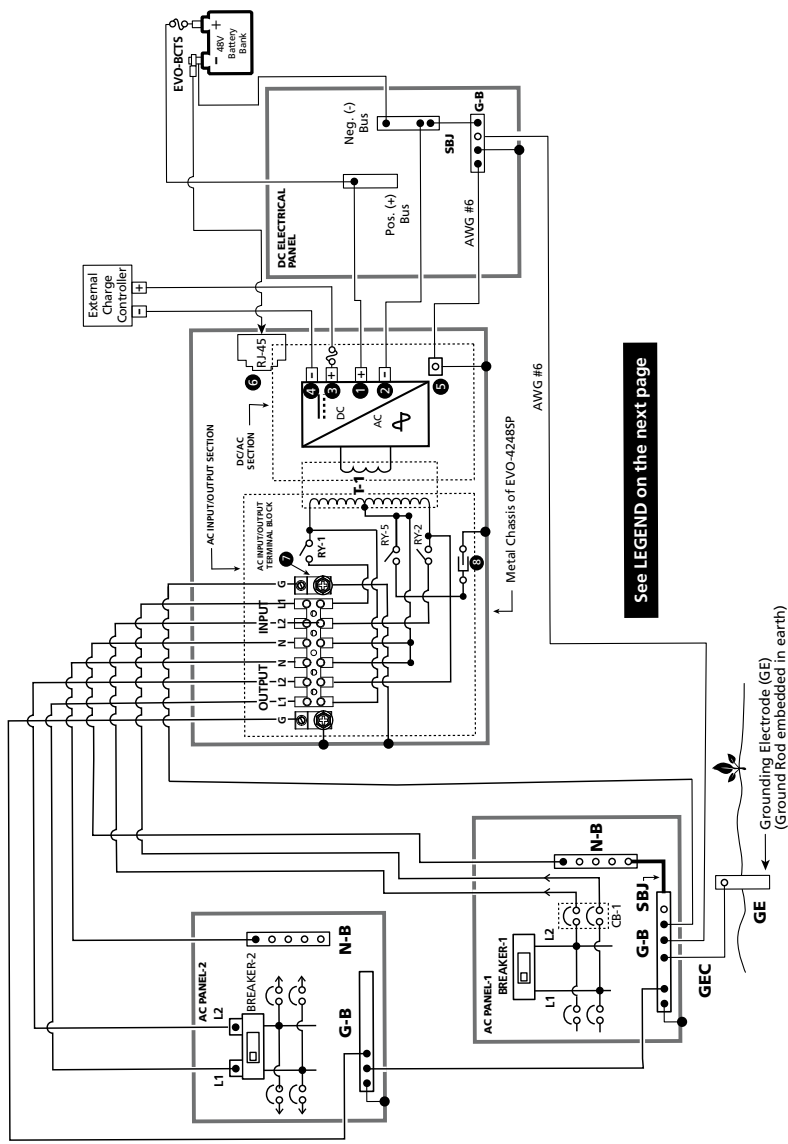

Fig 1 Installation Diagram for Typical Shore Based Installation
- Typical Shore Based Installation: Fig 1
LEGEND FOR FIG 1